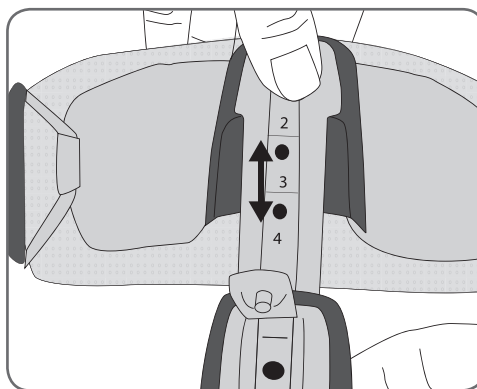

Figure 8-32: Sliding the elongation bar.
3. Slide the Thigh FS Cuff proximal and distal panels together or apart as required to achieve optimal stimulation. See Figure 8-32.